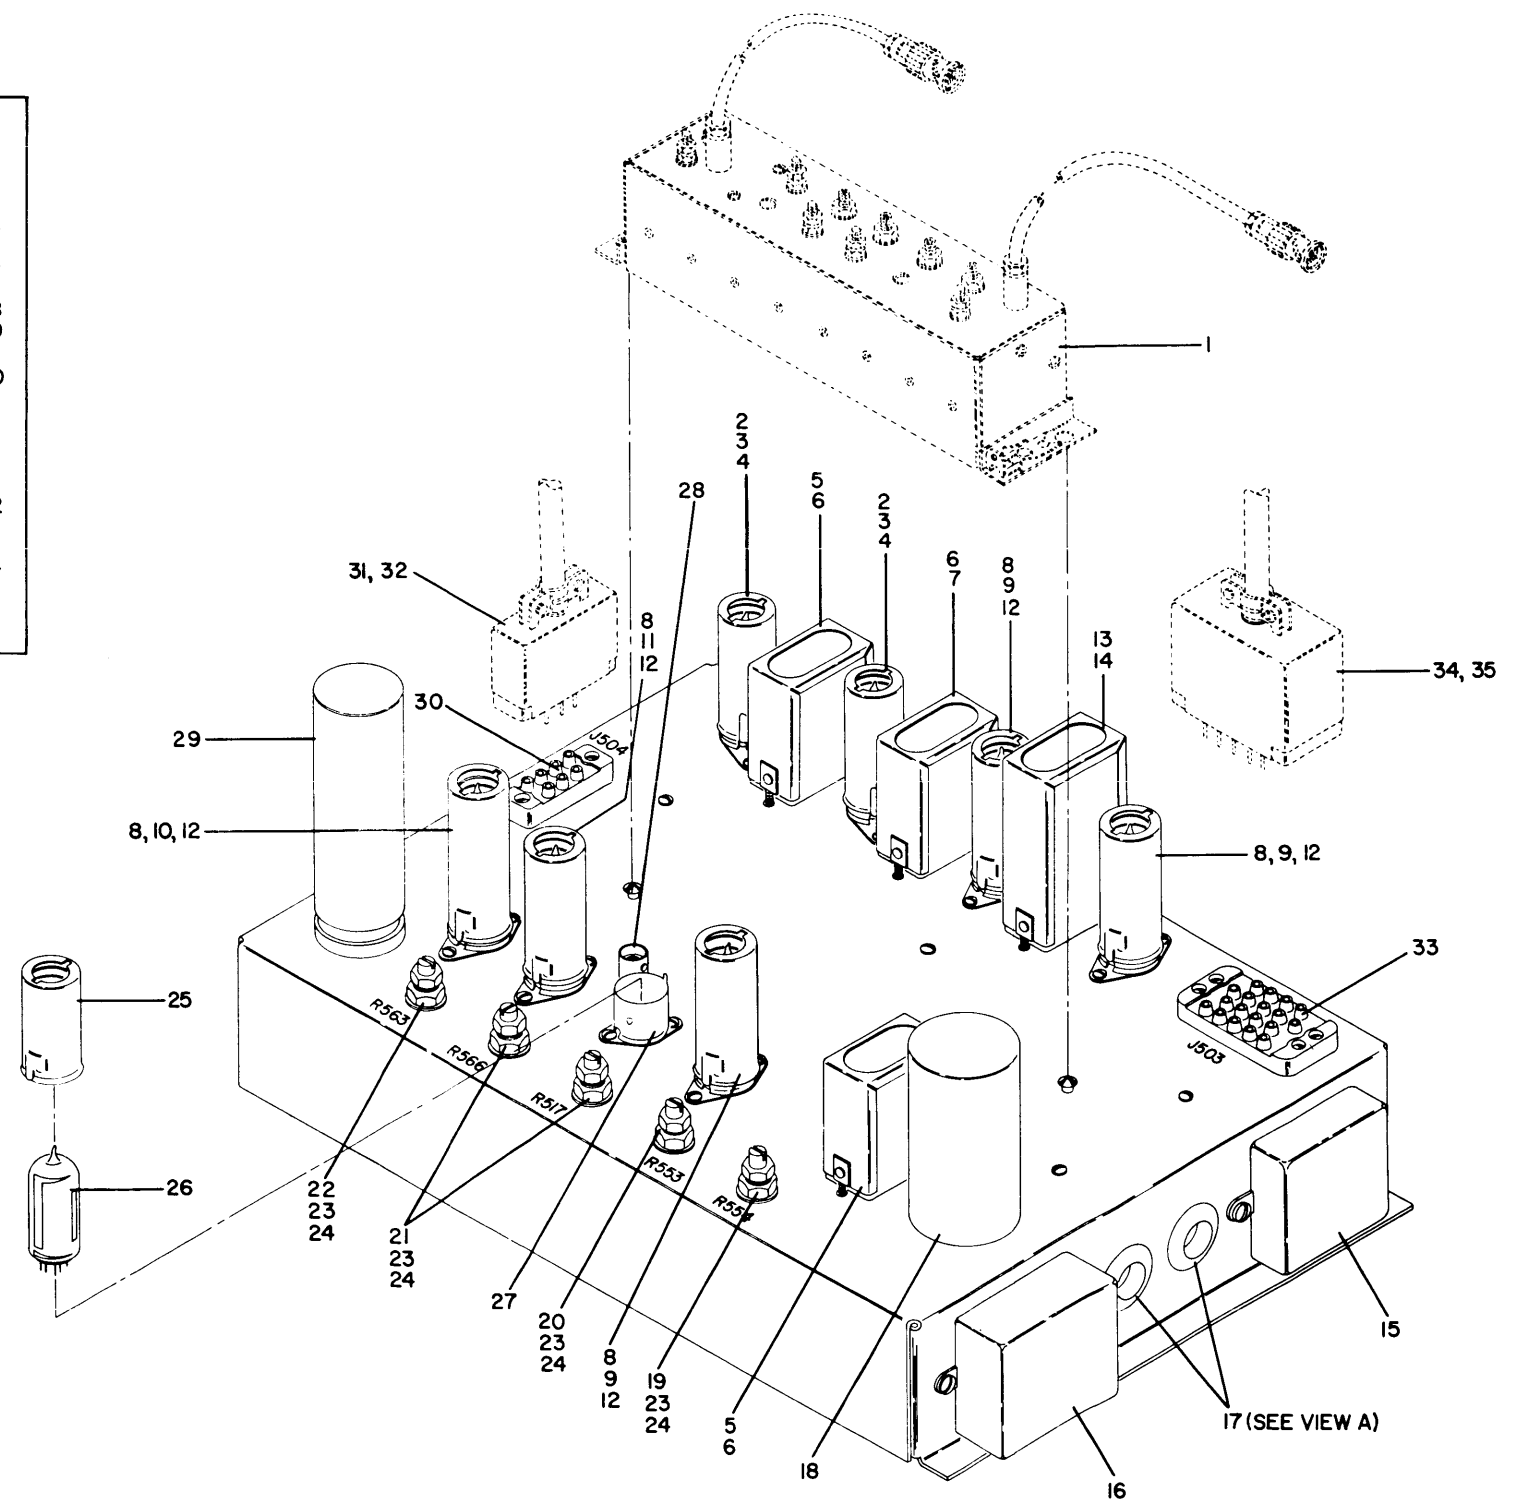
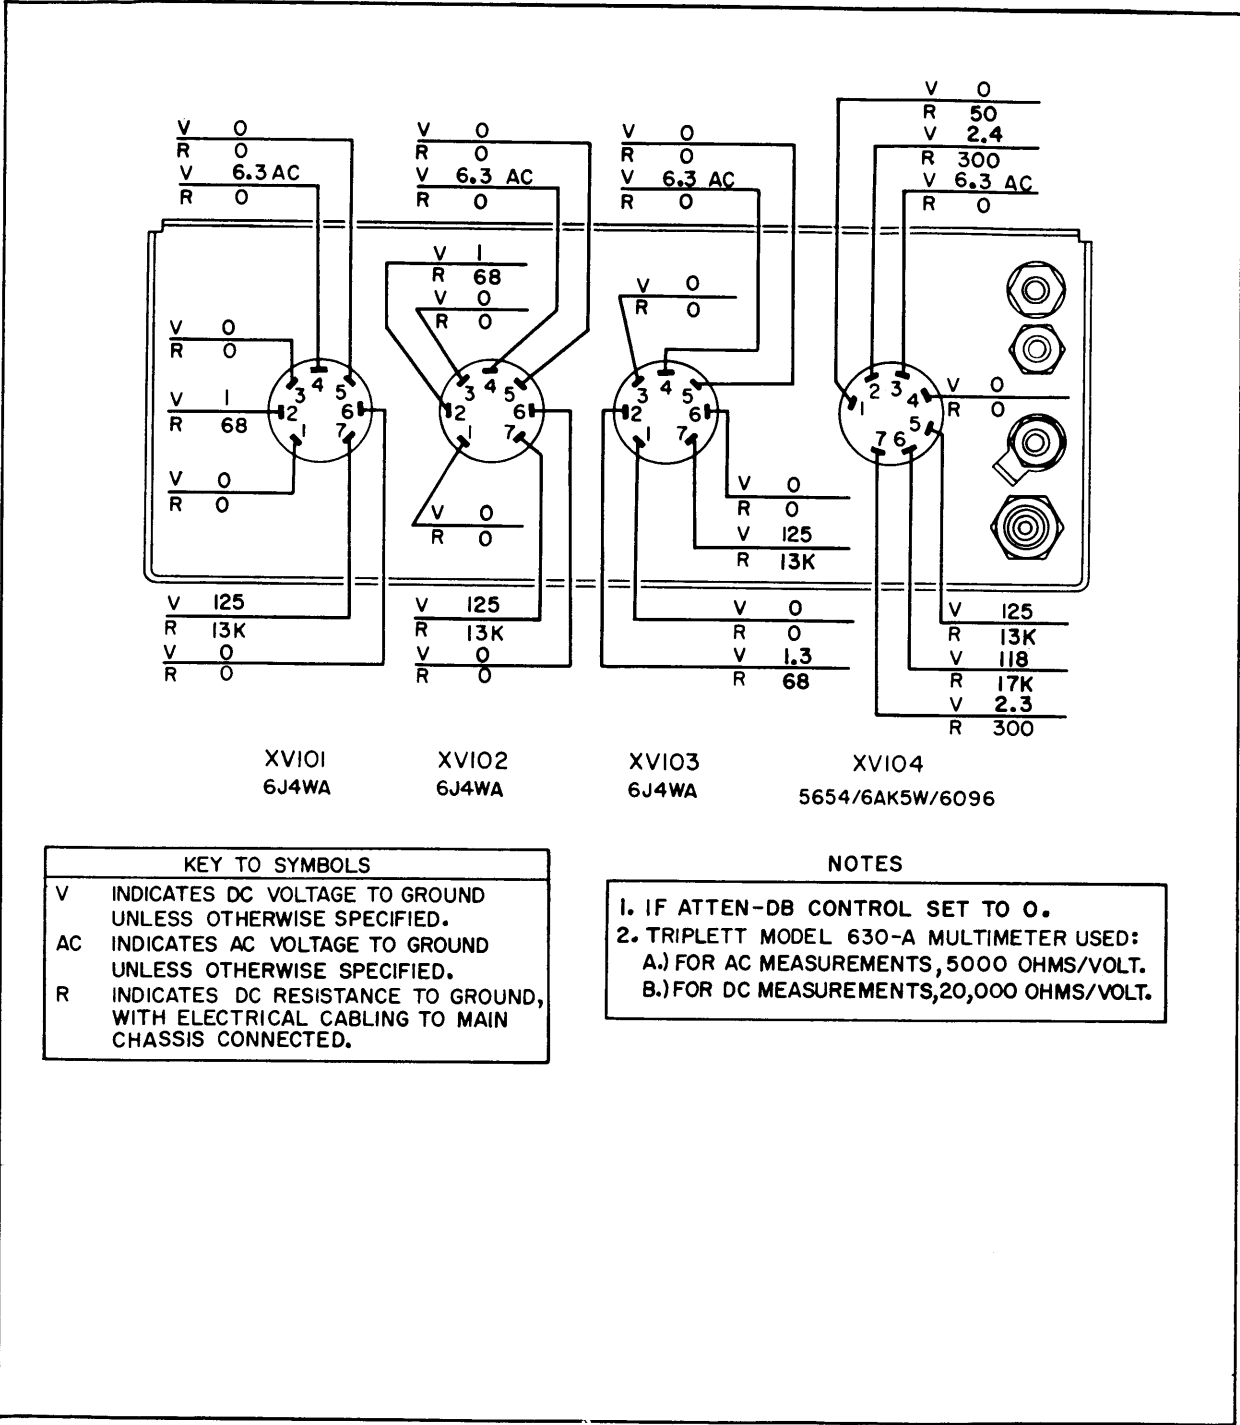

Figure 6-23. Vide Chassis, Exploded View
Figure 6-24. Wide Band I-f Amplifier, Voltage and Resistance Measurements
6-32. GENERAL. The video chassis of Spectrum Analyzer TS-1011/UPM-84 consists of circuitry similar to that in a conventional oscilloscope. Refer to table XV, Secondary Test Point Trouble Shooting Chart, for typical waveforms to be observed at each stage within the video chassis. The absence of an appropriate waveform at the point indicated signifies an operational defect. Analysis of the stage, by means of voltage and resistance measurements (figures 6-24 through 6-29) will usually quickly find the cause of substandard performance. Reference should also be made to figure 6-23 for an exploded view of the video chassis.
6-33. ADJUSTMENT OF PRE-SET VIDEO CHASSIS CONTROLS. Normally, the pre-set controls within the video chassis will not require readjustment. However, if the spectrum analyzer fails to meet minimum performance standards with respect to blanking, or spectrum centering and width, readjustment will be necessary. Do not tamper with these controls unless absolutely certain that all other tests and adjustments indicate that their setting is incorrect. Review section IV, which discusses theory and operation of the blanking multivibrator, for the function of BLANKING WIDTH control R517 (21, figure 6-23). Similarly, the discussion on the sweeper driver should be reviewed for the function of WIDE DISPERSION control R553 (20), NARROW DISPERSION control R554 (19), the front panel SPECTRUM WIDTH control, the chassis NEG. LIMIT ADJUST control R563 (22), and POS. LIMIT ADJUST R566 (21).
(See figure 6-23.)
(See figures 6-24 through 6-29.)
6-41. Table XIV lists the most probable troubles, causes, and suggested remedial steps that may be encountered in servicing the equipment. The references given in this table will aid in tracing the cause of failure to the defective major circuit. Figures 6-24 through 6-29 are supplied as a convenient means of checking voltage and resistance measurements from tube socket terminals to chassis ground. For checking waveforms at particular secondary test points within the video chassis, refer to table XV for representative waveforms at the designated tube socket terminals.